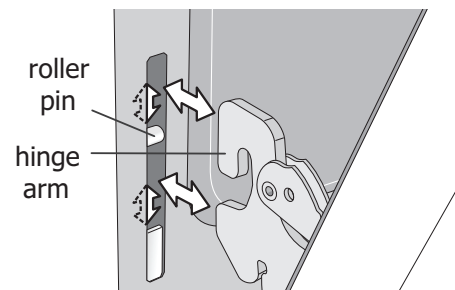

Figure 11: Remove (and replace) door
4. Pull the bottom of the door toward you while rotating the top of the door toward the appliance to completely disengage the hinge arm from the roller pins. (Figure 11).